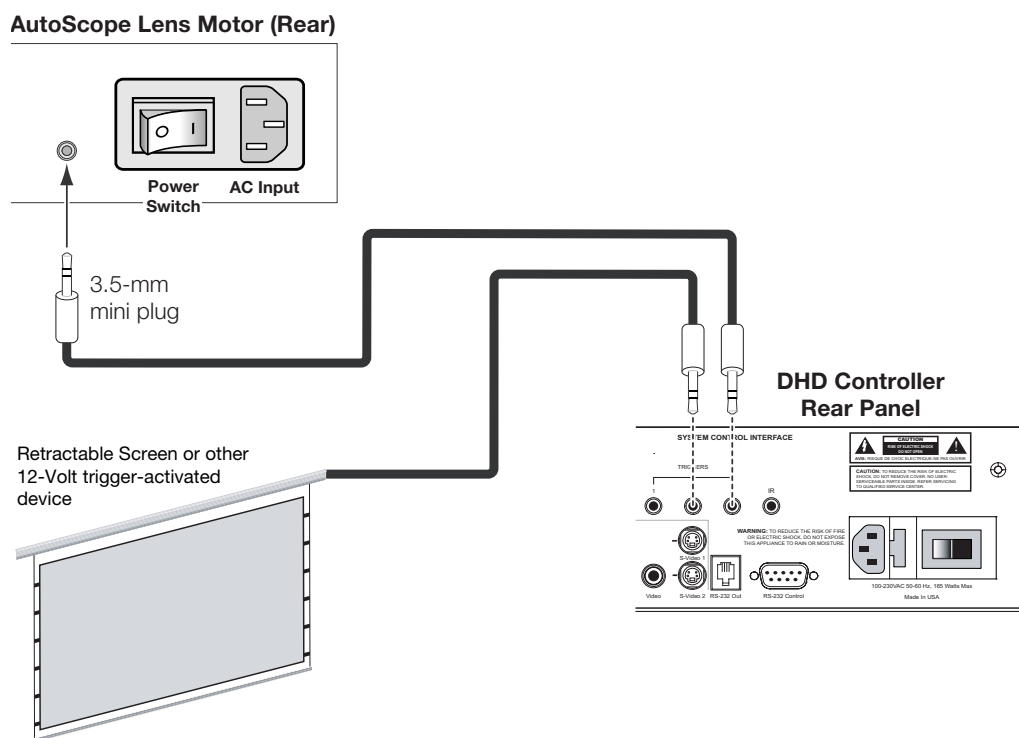

Figure 3-14. Connecting 12-Volt Trigger Outputs
If your VX-40d/-50d/-60d/-80d is equipped with a CineWide with AutoScope system, connect the AutoScope lens motor to a 12-volt trigger output on the DHD Controller; see Figure 3-14.
3. If this is an AutoScope-equipped projector, turn on the main power switch at the rear of the AutoScope lens motor. The lens motor power switch is located next to the AC input (see Figure 3-14).